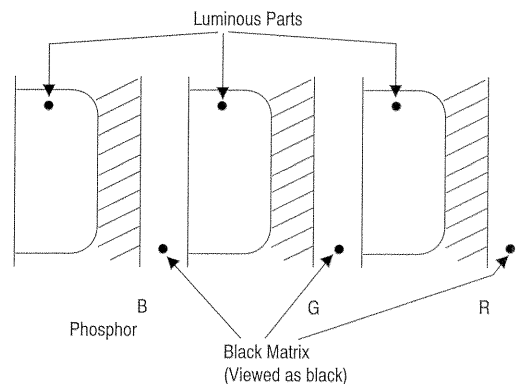

Fig. 2-1-2-6 Enlarged view of screen with microscope
- (13) To improve the mislanding mentioned above, it's acceptable to stick the permanent magnet to CPT funnel. (Fig. 2-1-2-7 and Fig. 2-1-2-8)